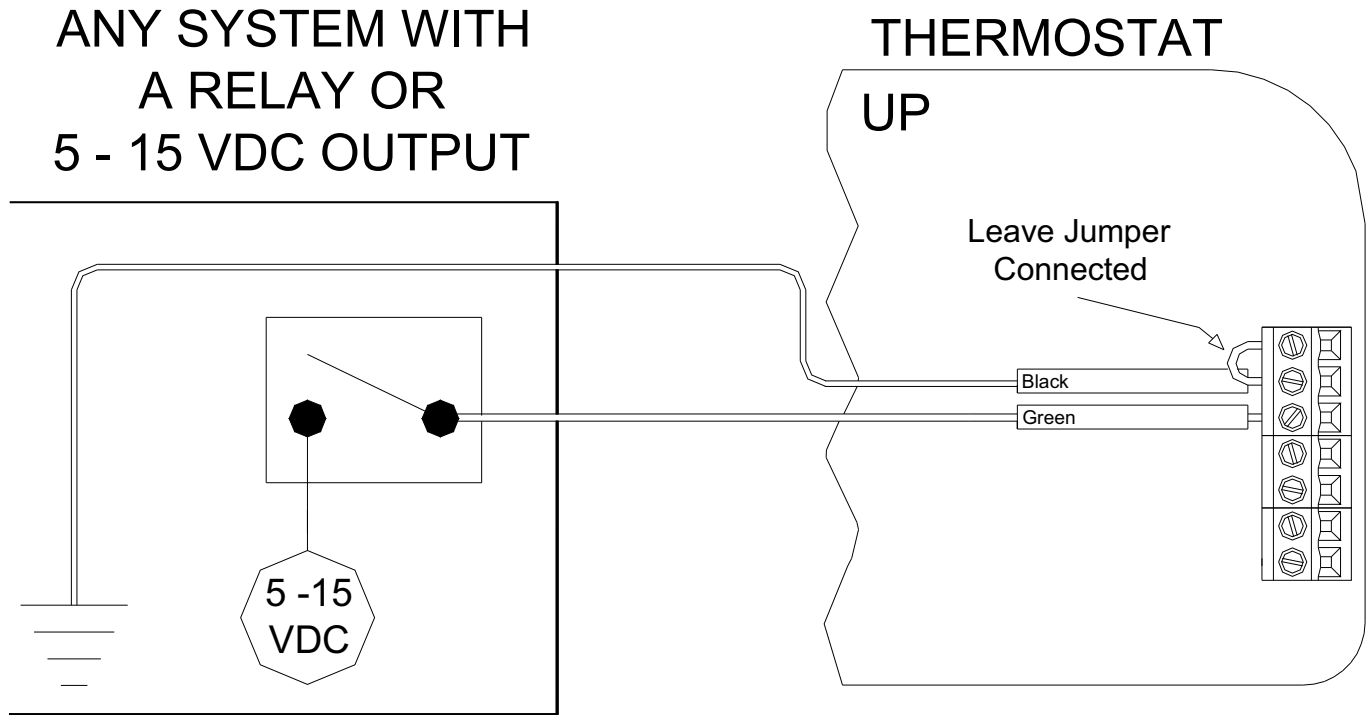

Figure 9 – Connections to a Remote Setback Switch
Run a two-conductor wire from the remote switch to the thermostat location. Make the connections to the Black and Green terminals under the section marked “Comm” on the right terminal strip - See *Figure 9*.
1. When connecting to a remote setback switch, the metal jumper between terminal labeled “N/C” and the terminal labeled “Black” on the right terminal strip must remain in place – See *Figure 9*.